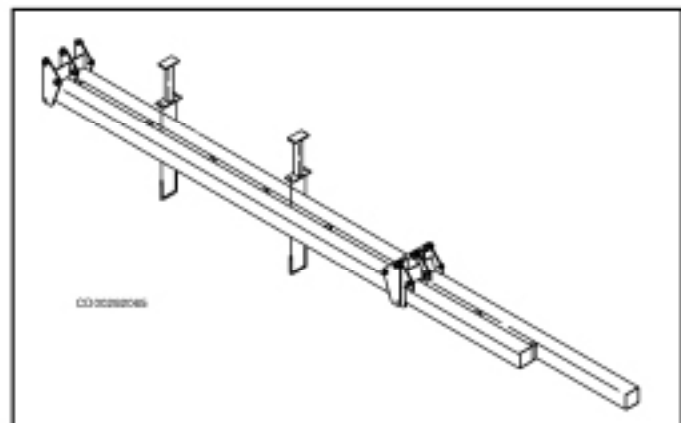

Figure 11 Wing Rest
6. Fasten the wing rests to the center section, using 5/8" U-bolts, nuts, and lock washers (not required on TRF) as shown in Figure 11. Locate wing rests by measuring from the hinge pin. Make sure there is no interference with gang assemblies when folded.